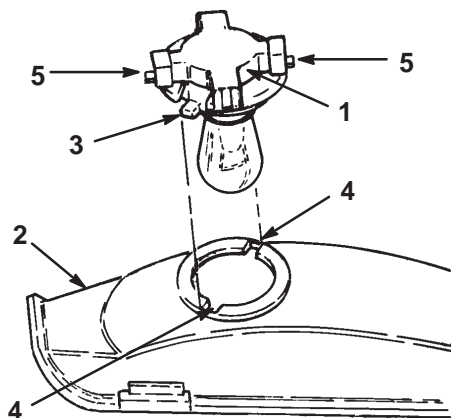

Figure 30
4. Rotate the bulb holder 1/4 turn counterclockwise and remove it from the reflector (Fig. 30).
2. The bulb holder has two tabs (Fig. 30). Align the tabs with the slots in the reflector, insert the bulb holder into the reflector and rotate it 1/4 turn clockwise until it stops.